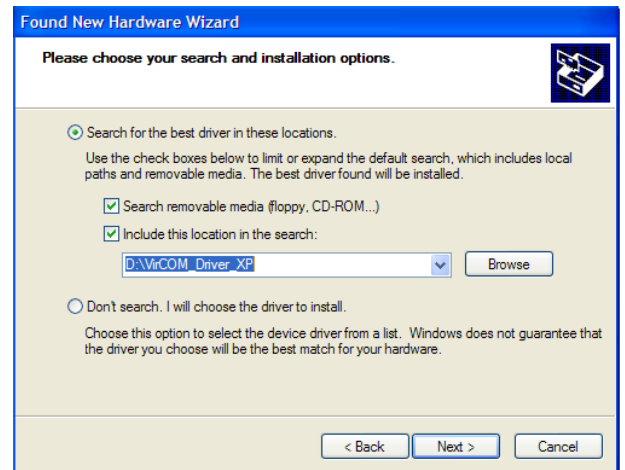

Figure 4. Search for Driver Window
- c. Select **Browse my Computer for Driver Software**. The window shown in Figure 4 appears.
The following window opens (see Figure 4).
4. Select **Search removable media (floppy, CD-ROM)** and **Include this location in the search** (see Figure 4). Use the **Browse** button to locate the **Windows XP and VISTA** or **Windows 7 (64 bit)** folder in the VirCOM_Driver_XP folder downloaded from the ADE7953 evaluation board Web page.